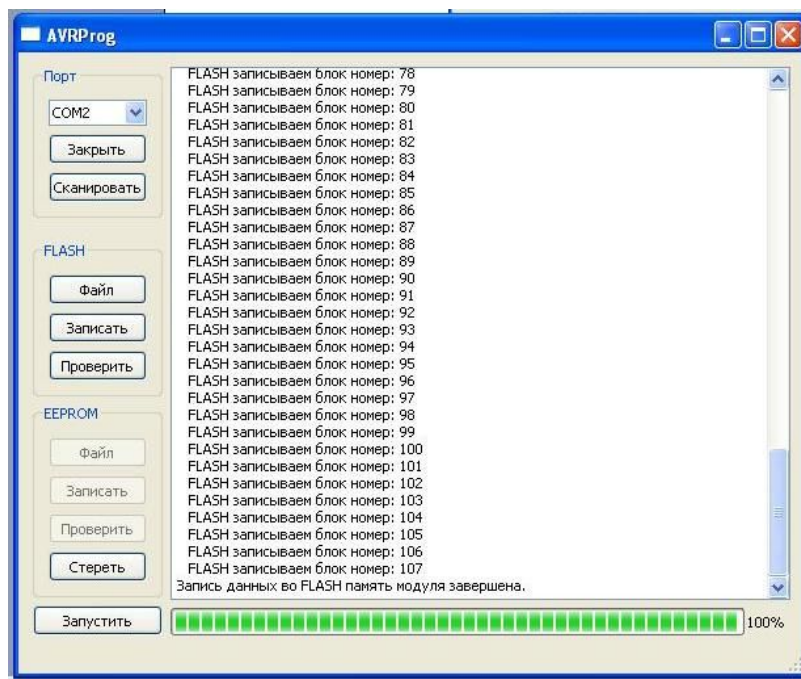

Fig.6
6. Click “Record”. If the weaving has been changed successfully, the screen similar to Fig.6 will be displayed.